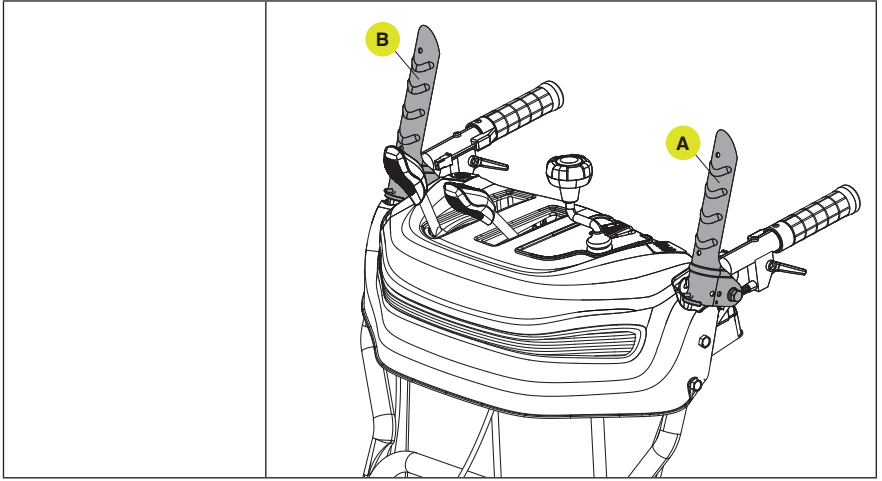

Figure 30
- While both the drive and auger control levers are fully depressed, release the auger control lever (A) while keeping the self-drive control lever (B) fully depressed. The clutch lock feature will automatically keep the auger control lever engaged as long as the self-drive control lever is depressed. (Fig. 30)